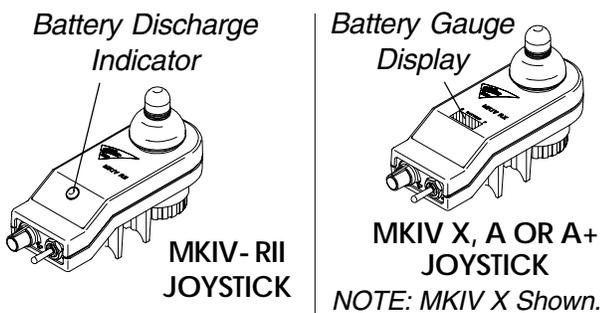

FIGURE 5 - WHEN TO CHARGE BATTERIES
**WHEN TO CHARGE BATTERIES (FIGURE 5)**
**BATTERY GAUGE DISPLAY (BGD)** is the bar graph display located on the MKIV X, A or A+ joystick. It will keep you informed as to power availability. A visual warning is given before the power becomes too low to operate the wheelchair. At full charge the two (2) LEFT segments and the farthest RIGHT segment of the bar graph will be illuminated. As the battery becomes discharged, the farthest RIGHT segment will progressively move to the LEFT until only the last two (2) bars (LEFT) are illuminated. At this level the last two (2) bars (LEFT) will start to Flash ON and OFF to indicate that the end user should charge the batteries as soon as possible.